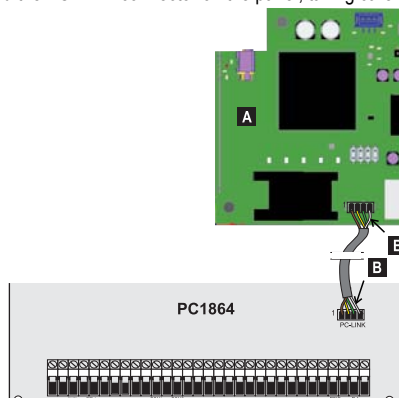

Figure 9 – Connecting the communicator to the DSC Power panel with the PCLINK-PCLINK cable: A) Communicator; B) white wire.
To connect the Power PC1864 panel to the communicator, use a PCLINK-PCLINK cable (see figure 9) connected to the PC-LINK 15 connector on the communicator and the PC-LINK connector on the panel, taking care to insert it in the right orientation.
*Connect the PCLINK-PCLINK cable as shown in figure 9, note that the PCLINK-PCLINK connector's white wire must always be connected to pin 4 of the communicator's and panel's PC-LINK connectors.*